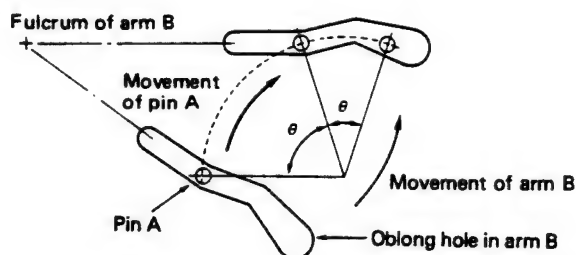

Fig. 12
4. The oblong hole of arm "B" is as shown in Fig. 12. The cassette tape draw-in process will be complete when the pin "A" degree of rotation is θ . Arm "B" will not move while the degree of rotation is θ' .